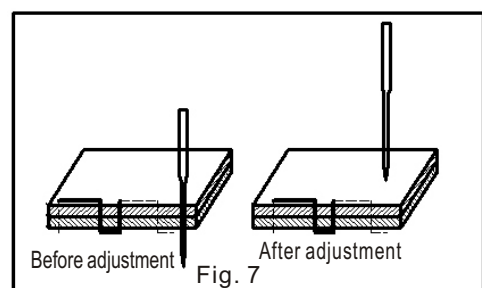

Fig. 4A-2
See Fig. 4A:
See Fig. 4A for signs and positions.
1) Press key to switch over the upper and lower needle gauges of stitches, effect of switchover referred to Fig. 4A-1.
Effect of adjustment referred to Fig. 4A-2.